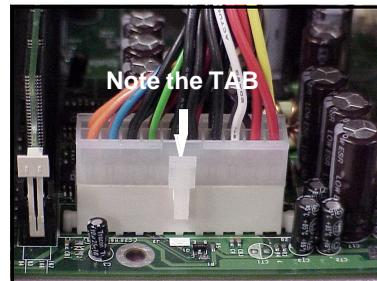

Figure 2.4b**
The clip on the power connector should lock over the tab on the onboard connector. You shouldn't be able to plug the power connector in any other way but just to be safe, make sure it looks like Figure 2.4b. Make certain that you do not miss connecting any of the pins because if you do, you will void your warranty and possibly cause damage to yourself and/or your motherboard when the power is turned on. After connecting the power, make sure the connector is seated firmly into its socket so it will not become loose or fall off when the computer is jostled or moved.
Step 2: Shown on the right, in Figure 2.4b, is the 20-pin connector plugged into the board*.